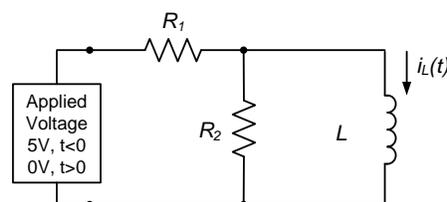

Figure 1. Basic RL circuit.
The basic RL circuit being used in this assignment is shown in Fig. 1. We will be interested primarily in the measured vs. expected behavior of the inductor current, $i_L(t)$. Initially, the voltage applied to the RL circuit is 5V. We obtain the natural response of the circuit by changing the applied voltage to 0V instantaneously at time $t = 0$. The natural response of the inductor current is $i_L(t)$, $t > 0$.
The way in which we reduce the applied voltage in Fig. 1 from 5V to 0V can have an effect on the circuit's natural response. In this lab assignment, we will use two different approaches to the switching process involved in changing the applied voltage:
The implementation of the circuit of Fig. 1 is further complicated by the fact that we cannot directly measure a time-varying current; oscilloscopes will only measure voltages. Thus, we must infer the inductor current from parameters that we can actually measure. KCL tells us that the current through the inductor is the difference between the current through the resistor R_1 and the current through the resistor R_2 . The currents through the resistors R_1 and R_2 can be determined from the voltages across and Ohm's law. Thus, the inductor current can be determined from the voltages across the resistors as follows:
- Construct the circuit shown in Fig. 1, using $R_1=100\Omega$, $R_2=47\Omega$, and $L = 1\text{mH}$. (As always, measure the actual resistance values; you may assume that the nominal inductance value is correct.)